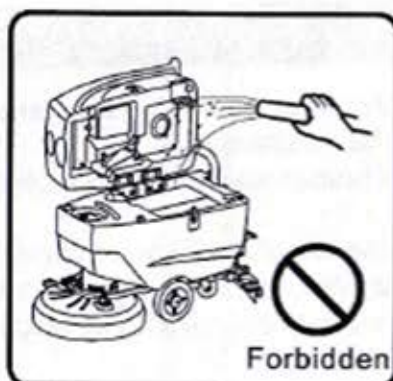

fig.9
4. Water pills should be avoid when cleaning the machine itself. Electronic parts inside the control panel are sensitive to water spills and may cause damage in water ingress(fig.9&10).